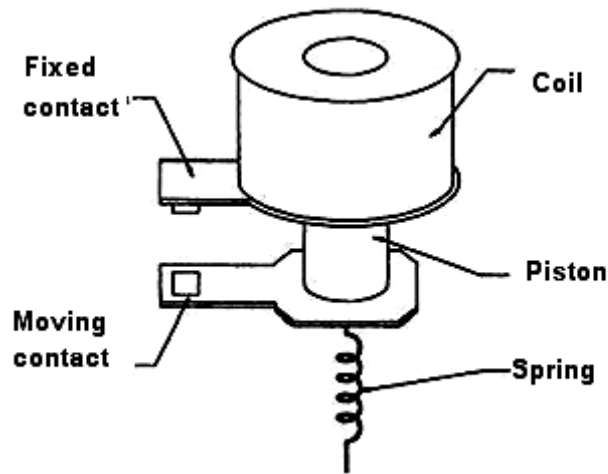

Figure 2 Solenoid-type (plunger) relay
1.1.2 **Plunger type relay:** The other type is the piston or solenoid relay, illustrated in Figure 2, in which α bar or piston is attracted axially within the field of the solenoid. In this case, the piston also carries the operating contacts. This called plunger type relay.